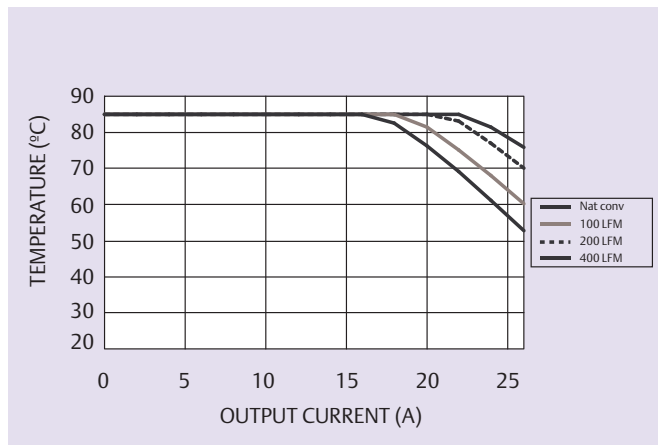

Figure 3 - Safe Operating Area
- The pk-pk output ripple voltage is measured with an external 10 μ F ceramic capacitor. See Figure 3 Standard application schematic on the following page.